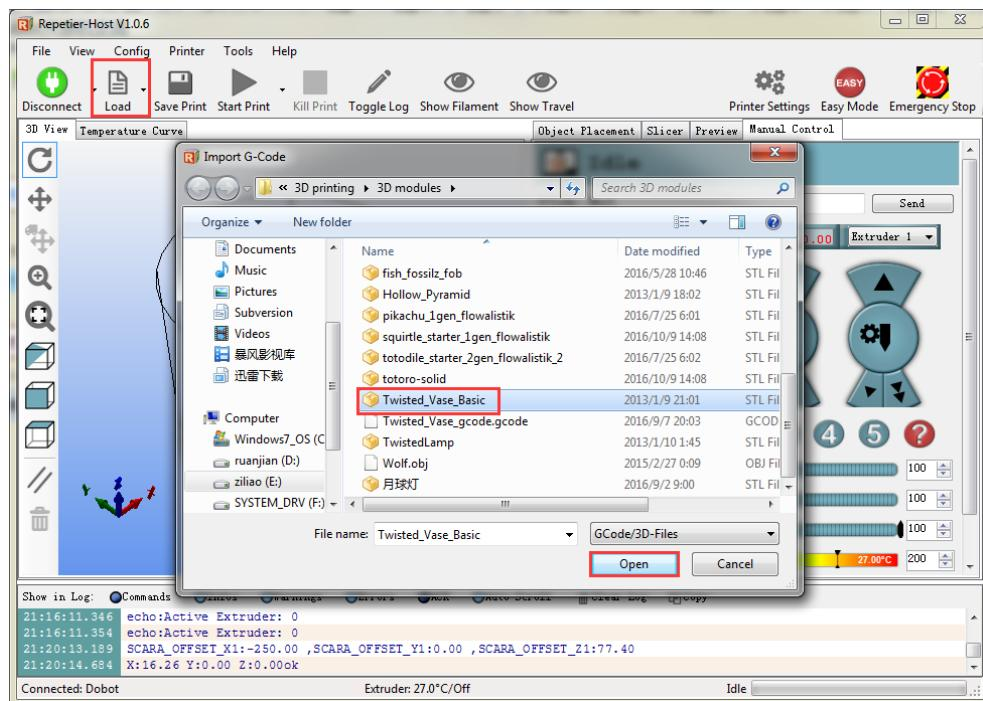

Figure 5.138 Import 3D printing Model
**Step 5** Click **Load** to import the prepared 3D printing model, as shown in Figure 5.138. You can also load 3D printing model which are DobotStudio, the loading path is